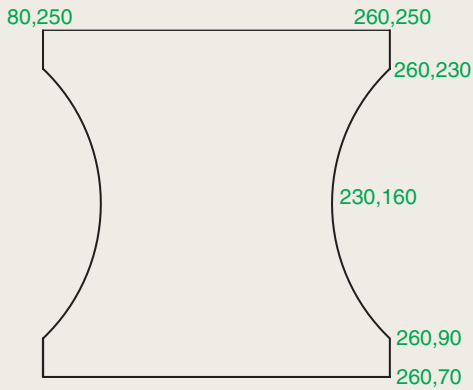

Fig. 3.45 Exercise 1
- Using the **Line** and **Arc** tools, construct the outline given in Fig. 3.45.